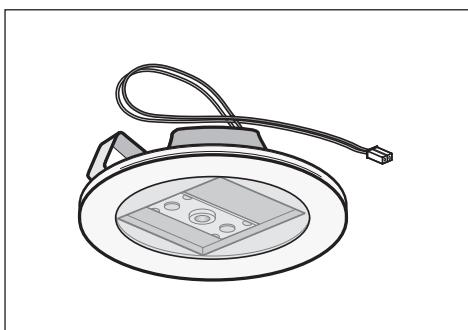

Fig.18
• Replacing LED lamps (Fig.18):